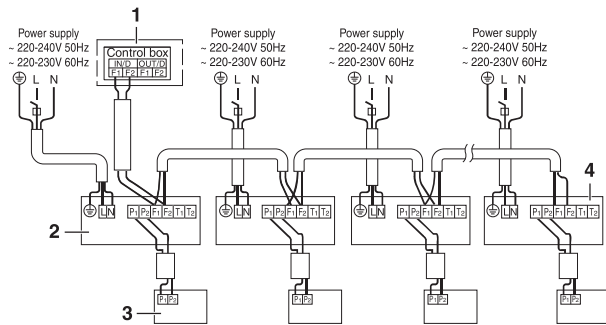

Fig. 27
- (1) When using 1 remote controller for 1 indoor unit. (Normal operation) (See Fig. 27).